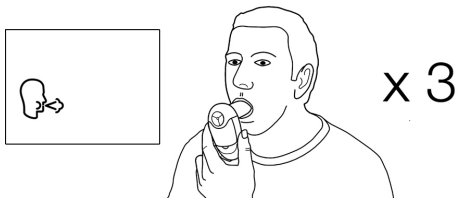

Figure 3. Holding device during test.
2. Turn the device on. ①
4. When the device is ready for a test (👉), holding the head high, breathe in as deeply as possible, hold the Vitalograph asma-1 BT ready in front of the mouth, see Figure 3.